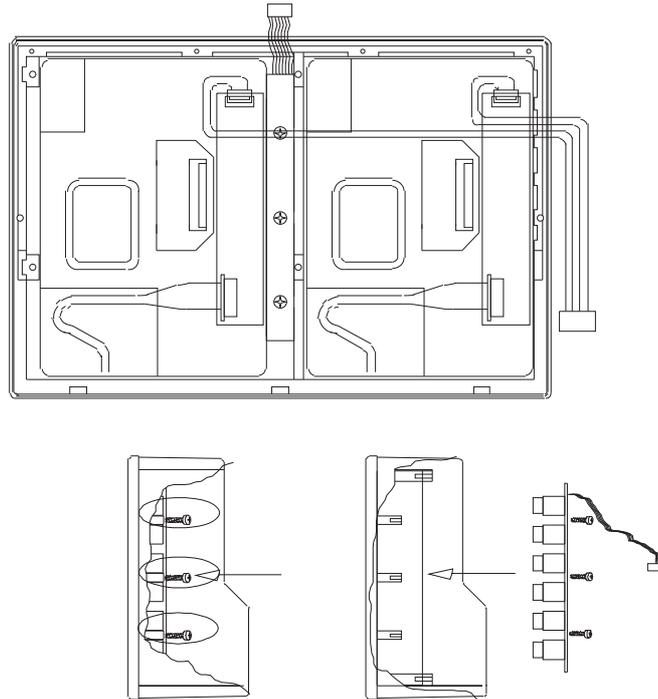

Fig. E 8-19: Mounting of switch pcb
12. Replace the switch pcb and fasten it with three screws (Fig. E 8-19).